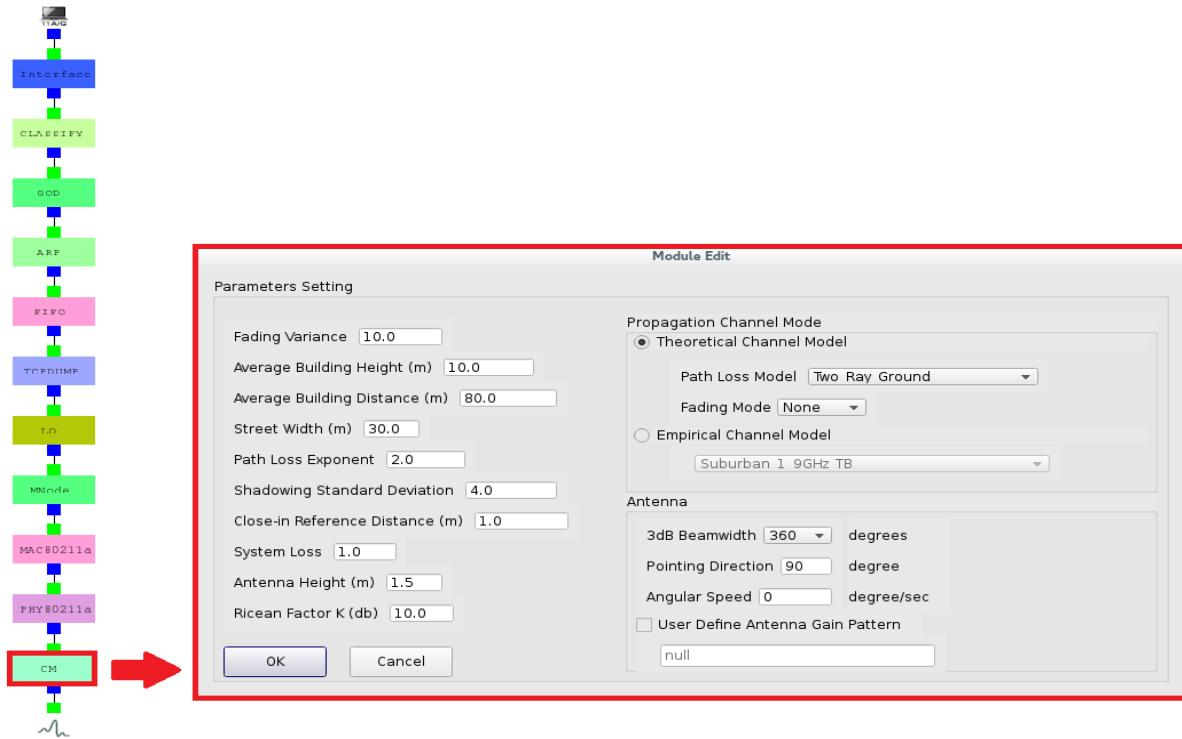

Figure 5.1.36 Configure the used channel model (CM) via Node Editor
In addition to setting the channel model used in simulation here, alternatively user could choose and configure the used channel model (CM) via **Node Editor** as figure 5.1.36.